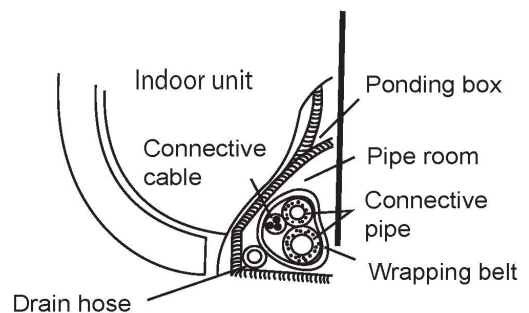

Fig. 14
5. Bundle the tubing, connecting cable with tape securely, evenly as shown in Fig. 14.